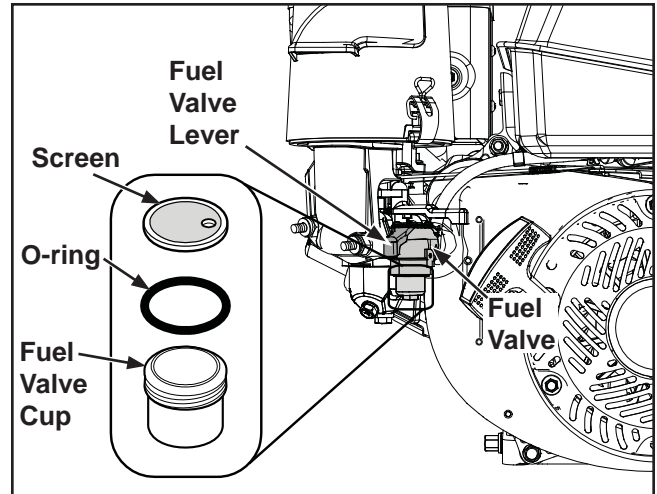

Figure 5-5. Fuel Valve Cup, O-ring, and Screen.
4. Remove the fuel valve cup. See Figure 5-5.